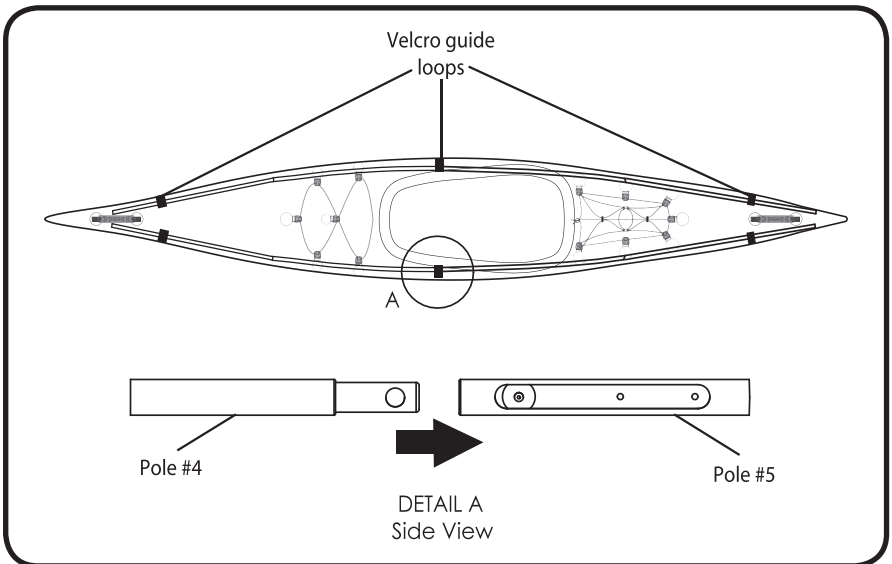

Figure 11
10. Moving to one side of the kayak, you will install poles #4 and #5. **See Figure 11.** Slide pole #4 into the Velcro guide loops along the main inflation chambers at the side of the kayak. The two loops you will need for this pole are at the front end of the kayak, along the side, and at the midpoint, also along the side.
After positioning poles #4 and #5, connect the two ends, making sure that the holes on the ends of each pole are aligned, and lock them together with the spring snap at the end of pole #5. **See Figure 11.**
11. Move to the other side of the kayak and repeat step #10. **See Figure 11.**